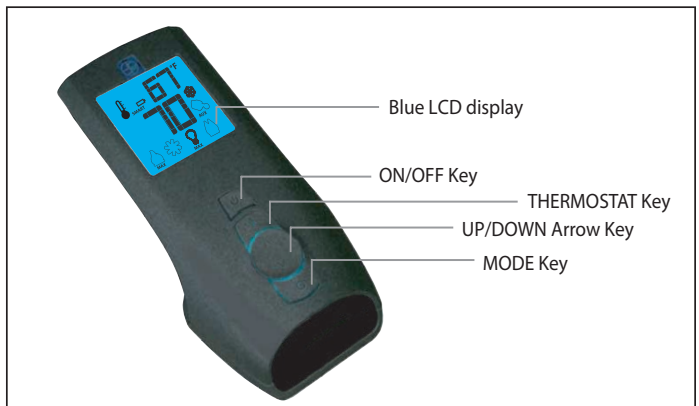
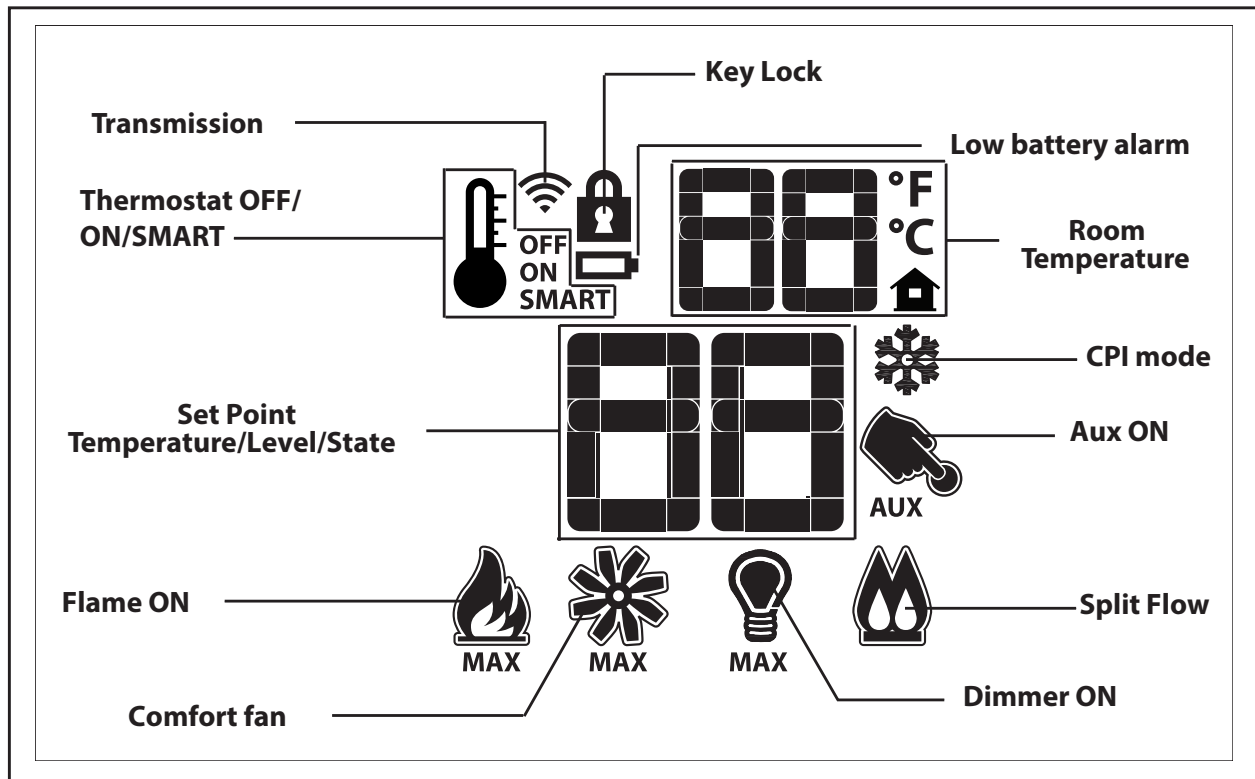
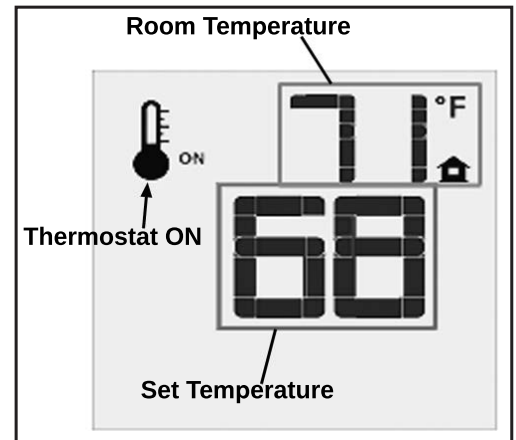
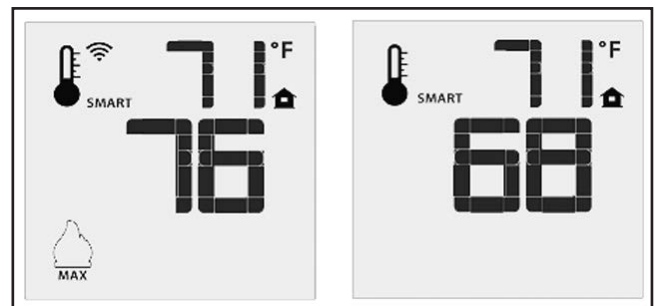

Figure 5: Proflame 2 Transmitter.
Figure 6: Proflame 2 Transmitter LCD Screen.
Figure 10: Remote Control Displays Set Temperature.
Figure 11: Remote Control's Smart Flame Function.
The Proflame 2 Transmitter is a black remote control with a blue backlit lcd display. It uses a streamline design with a simple button layout and informative lcd readout (Figure 6). The Transmitter is powered by three (3) AAA type batteries. A Mode Key is provided to Index between the features and a Thermostat Key is used to turn on/off or index through Thermostat functions (Figure 5 & Figure 6)
Press the ON/OFF Key on the Transmitter. The Transmitter LCD display will only show the room temperature and Icon (see Figure 10). A single “beep” from the IFC confirms reception of the command and both the pilot light (if the unit is not set to continuous pilot) and main burner will turn off.
The Remote Control can operate as a room thermostat. The thermostat can be set to a desired temperature to control the comfort level in a room. To activate this function, press the Thermostat Key (see Figure 5). The LCD display on the Transmitter will change to show that the room thermostat is “ON” and the set temperature is now displayed (see Figure 10). To adjust the set temperature, press the Up or Down Arrow Keys until the desired set temperature is displayed on the LCD screen of the Transmitter.
The Smart Thermostat function adjusts the flame height in accordance to the difference between the set point temperature and the actual room temperatures. As the room temperature gets closer to the set point the Smart Function will modulate the flame down. To activate this function, press the Thermostat Key (Figure 5) until the word “SMART” appears to the right of the temperature bulb graphic (Figure 11). To adjust the set temperature, press the Up or Down Arrow Keys until the desired set temperature is displayed on the LCD screen of the Transmitter.